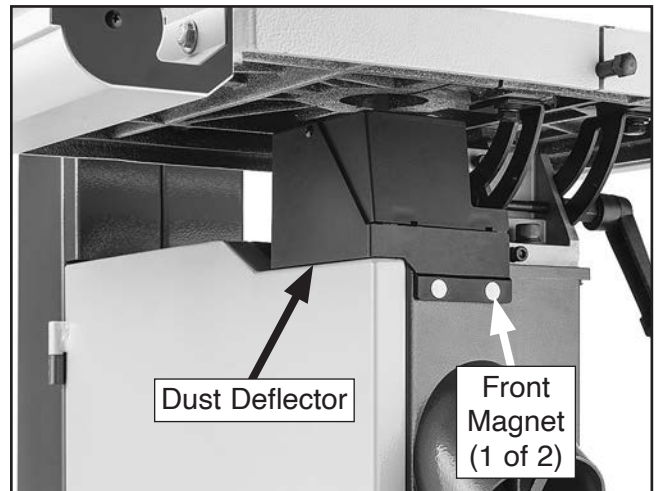

Figure 2. Example of dust deflector installed.
7. Set table tilt to 0°, and install dust deflector under table so it rests on door and frame (see **Figure 2**). Ensure (2) magnets on face of deflector attach securely to bandsaw frame.